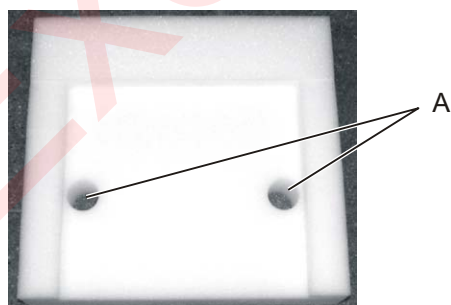

Figure 187: Shock absorbing buffers
Shock absorbing foam packaging bags are placed at all sides between the laser device and the rigid transport packaging. The base pallet has two shock absorbing buffers (see Figure 187). The laser device feet are placed in the locating holes (A). This fixing of the feet and the foam packaging bags secure the laser device in position when the rigid packaging is closed.